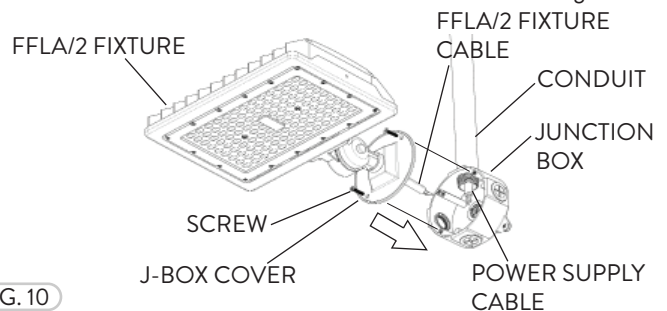

FIG. 10
- 3 Follow the Wiring Diagram and properly wire the FFLA/2 fixture to the Power Supply Cable from the Conduit. Fasten the Junction Box Cover to the Junction Box with the Screws (not included) (Fig. 10).